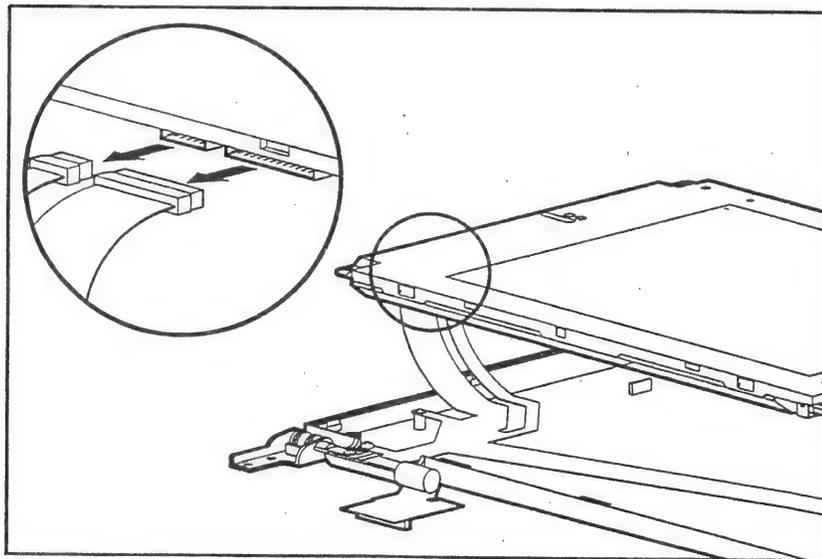

Figure 2-17. Removing the Two Display Cables
4. Lift the LCD panel out of the display enclosure and unplug the two display cables (Figure 2-17).